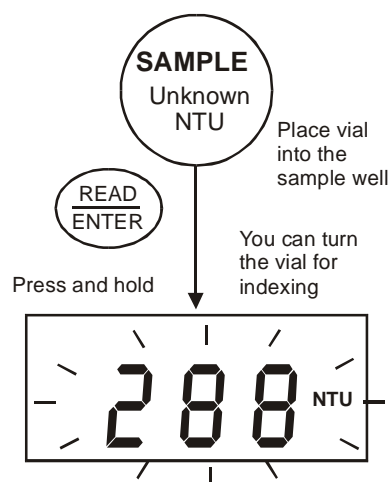

Figure 12: Continuous measurement
3. Press READ/ENTER key and hold. See Figure 12.